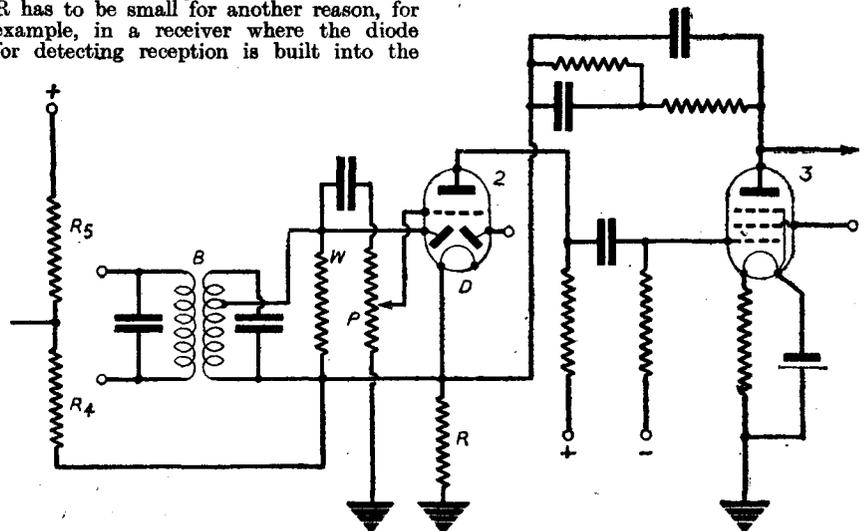
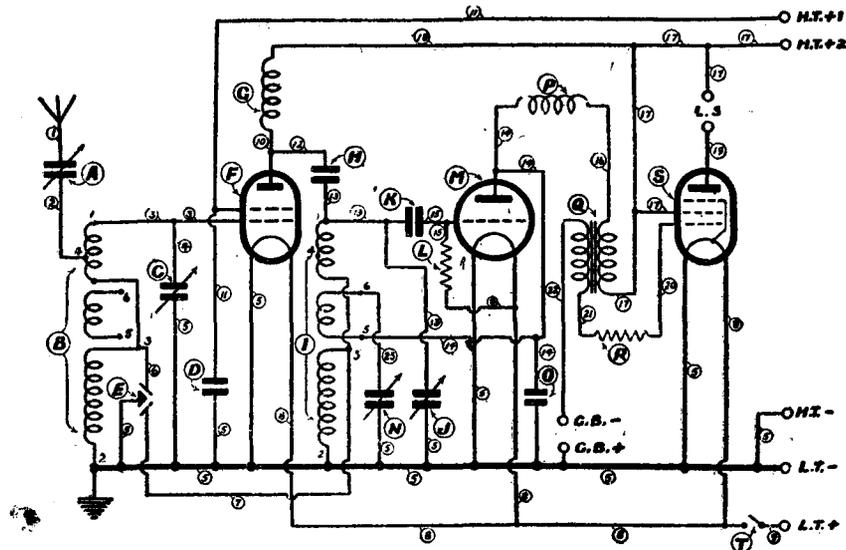

Fig. 2.—The circuit arrangement where a diode is used for detection.
Fig. 1.—Theoretical circuit diagram of a three-valve receiver.
envelope of the next following low-frequency amplifier valve and shares a cathode in common with that valve, as shown in Fig. 2. In that arrangement the high-frequency or intermediate frequency is led to the diode D via the band filter B , and the low frequency obtained by rectification is tapped from the potentiometer P . This serves at the same time for carrying the grid-bias voltage generated at the resistance R so that the lower end of the potentiometer must be at the lower end of the resistance R . In the minimum volume setting, however, the volume is not completely reduced to zero, since a part of the low-frequency voltage generated by the rectification appears on the resistance R , because the series circuit of D and R is across the load resistance W of the diode. For this reason also it is desirable to have a small resistance R , as well
It is for those readers who are hazy on the point that we have had the two diagrams shown here specially prepared. As you see, Fig. 1 is a conventional circuit diagram with certain letters and numbers added. Fig. 2, on the other hand, is a perspective drawing, showing how a receiver following the circuit of Fig. 1 would be made up. The letters and numbers appearing on the circuit diagram are repeated on the receiver, and show clearly to what component each symbol refers.
Look at the top left-hand corner of the circuit diagram (Fig. 1). There you will see a sign like a crow's foot. This is the universally accepted symbol for the aerial. The aerial is joined to the aerial terminal or binding screw on the bottom right-hand corner of the set, as shown in Fig. 2.
From the crow's foot on Fig. 1 is a line marked (1), leading to a symbol consisting of two thick lines with an arrow through them marked (A). If you look for the same signs on Fig. 2, you will see that (1) refers to the wire from the aerial terminal to a little oblong affair with a knob on it, and that (A) refers to the oblong thing itself. If you don't immediately recognise this latter as what is known as a pre-set condenser, you will be able to find its name by referring to the key published with this article.
Why this is shown in Fig. 1 as three separate "springs" is because it contains three separate windings. The top one tunes in to the medium waves, the middle one in this case is not used, and the bottom one when joined to the top one by means of the wave-change switch (E) tunes in to the long waves. Thus you can always see from the circuit diagram just how many
Perhaps we should explain that the small numbers 1, 2, 3, 4, 5, and 6 round the base of each tuning coil, and shown on Fig. 1 not in circles, are those used by the manufacturers to mark the terminals of the coils, and have no connection with our system of numbering the various connecting wires.